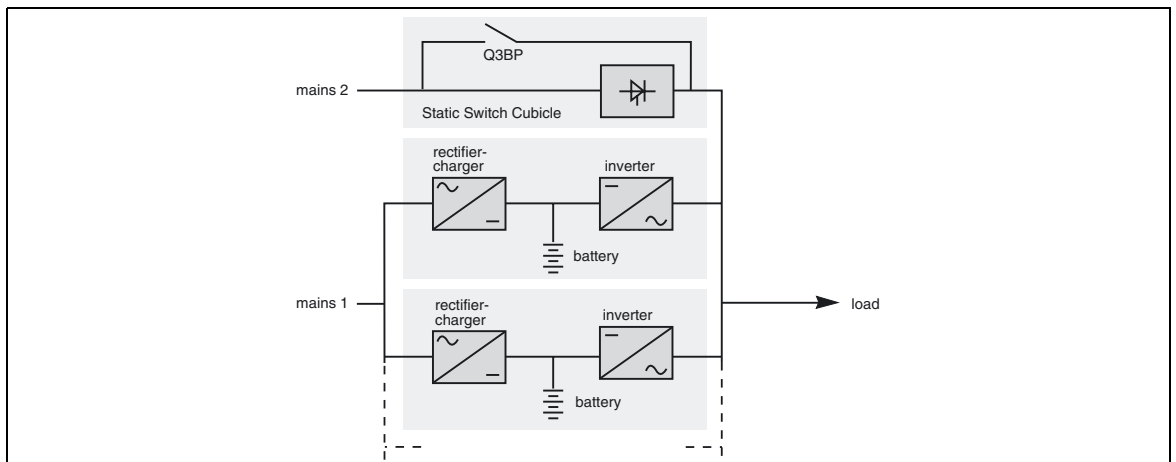

Fig. 7
- Parallel UPSs with SSC: (figure 7)